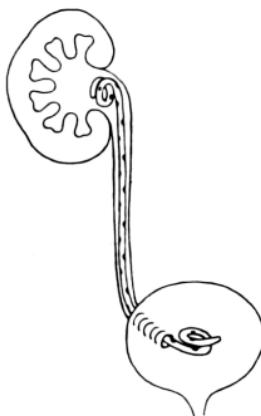

Fig. 2
3. Maintaining the position of the positioner, continue to gently withdraw the wire guide until the intravesicle coil forms. Completely remove the positioner and the wire guide (**Fig. 2**).